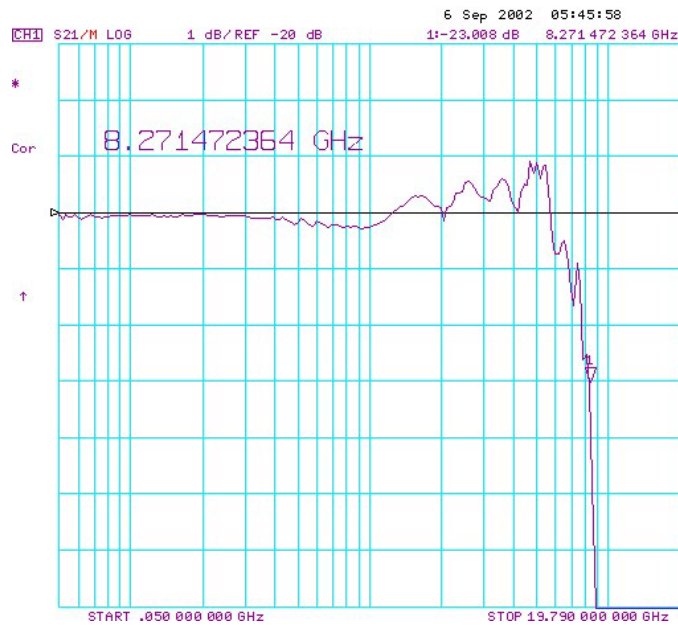

Figure 223 Typical Waveform for an 1134A Prob
- 45 Then select the **Data/Memory** screen key. You may need to adjust the **Reference Value**, located under the **Scale Ref** key, slightly to position the waveform at center screen. The waveform should be similar to that shown in **Figure 223** on page 197.